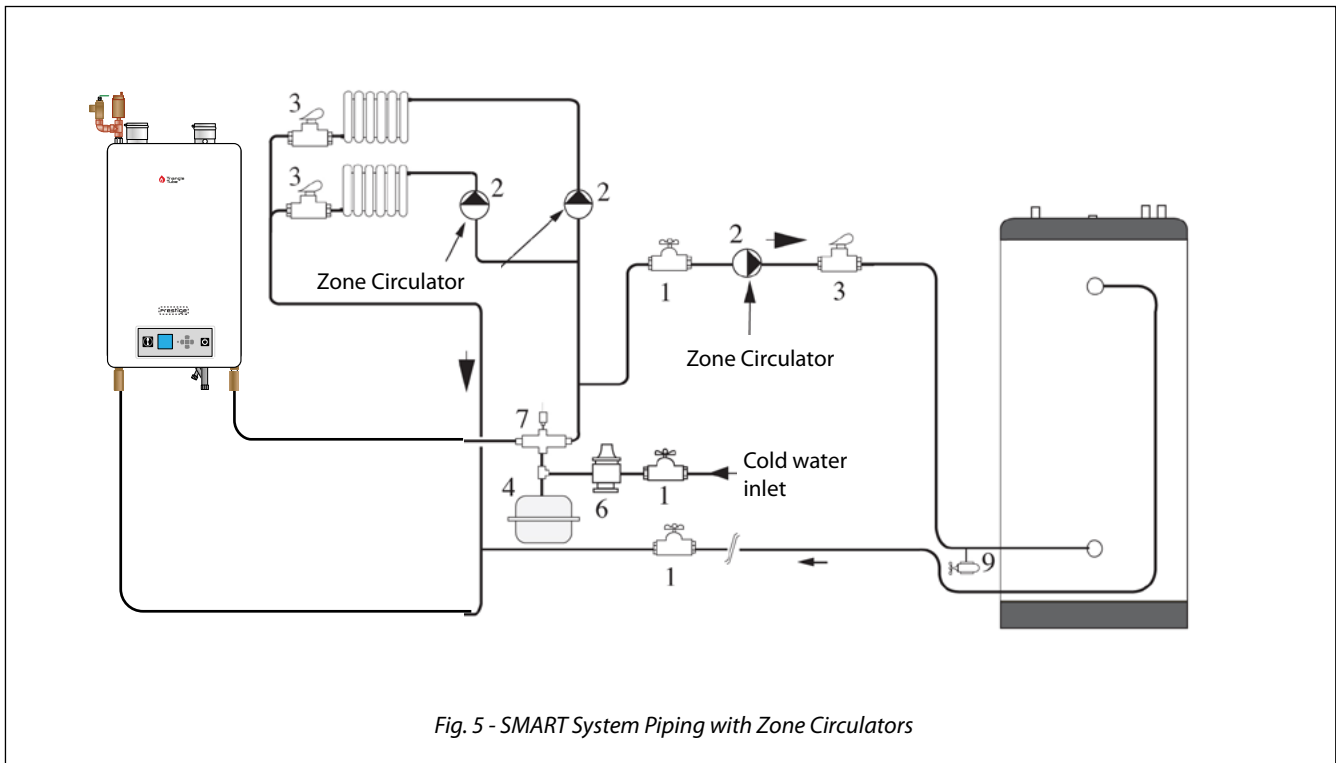
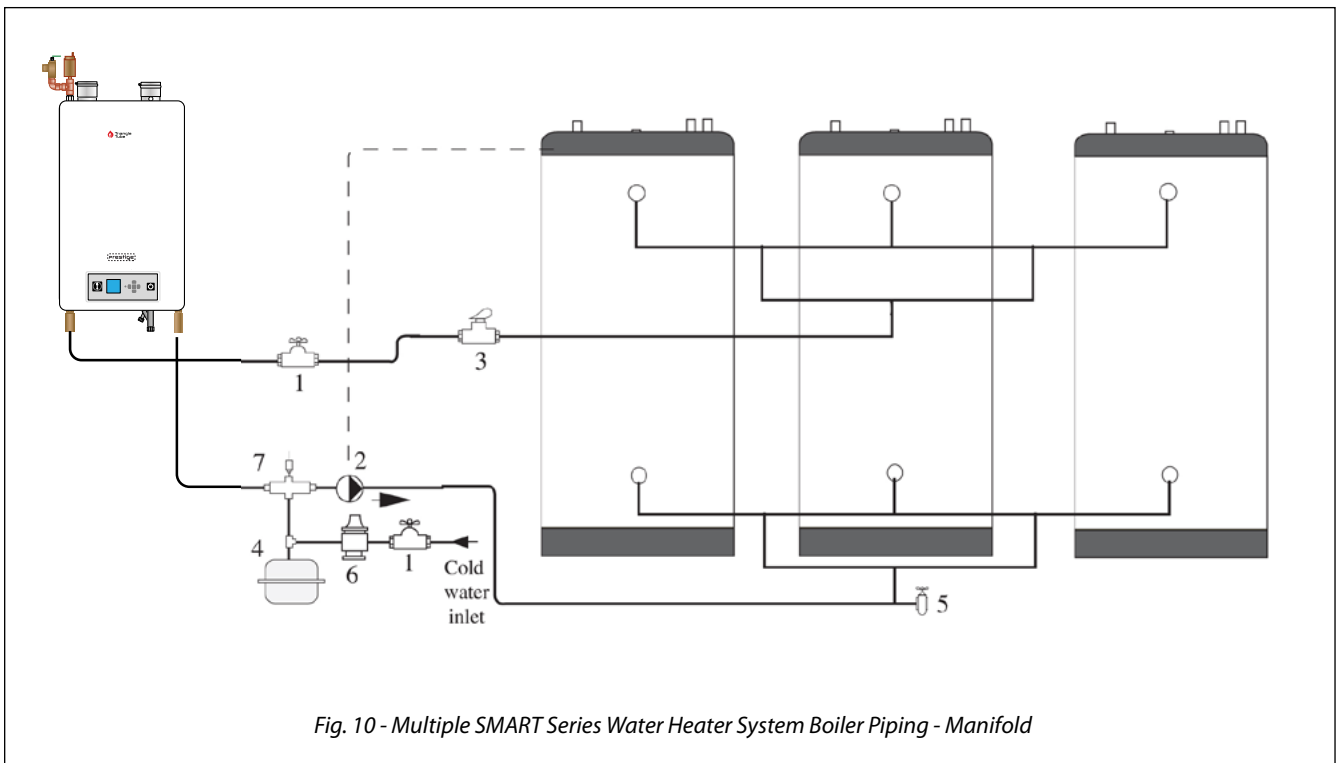

Fig. 5 - SMART System Piping with Zone Circulators
Fig. 10 - Multiple SMART Series Water Heater System Boiler Piping - Manifold
- For Boiler water piping, refer to *Fig. 7 on page 11 thru Fig. 10 on page 13 Fig. 5 on page 10*.
- For Multiple water heater domestic and boiler piping, refer to *Fig. 8 on page 12 thru Fig. 10 on page 13*.